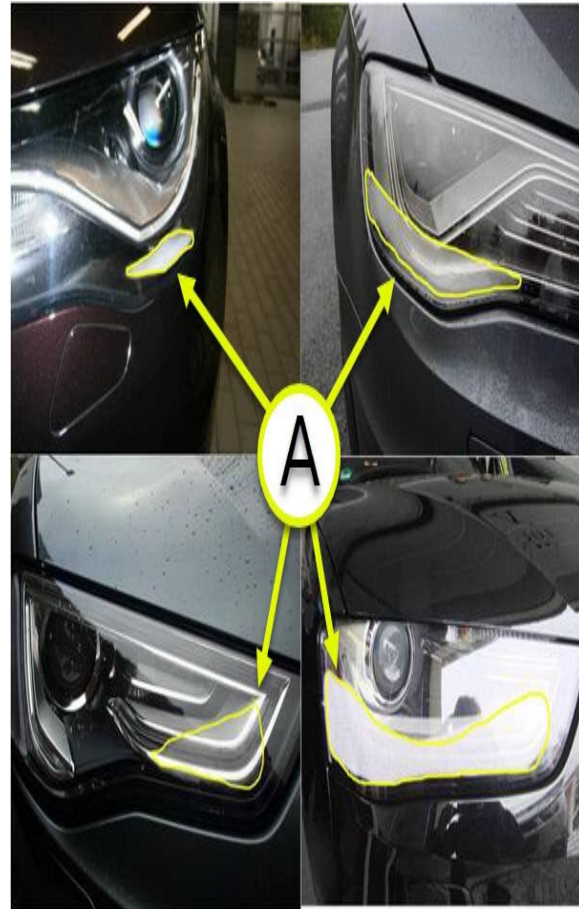

Figure 1. Normal condensation/moisture on the inside of the lights.
- Workshop is able to confirm the customer concern. **Figure 1** provides examples of **NORMAL** amounts of moisture that may be visible. The level of moisture buildup may vary car-to-car or even between lamps on the same vehicle.